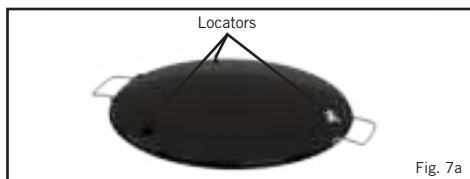

Fig. 7a
- Place the burner pan (F) on the stem and tri pod assembly.
- To prepare the Skottel Braai for use place it onto the burner pan (F) so that all three locators (V) (Fig.7a) will properly mate with the lip on the circumference of the burner pan (F) thus ensuring a stable fitment.